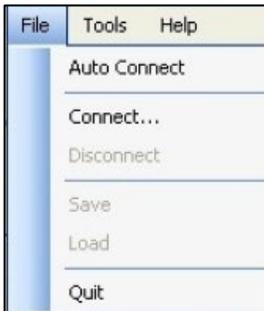

Figure 3
4. Click **File > Auto Connect (Figure 3)**. The program will scan for a display and prompt Loading successfully completed when a connection is established. If Auto Connect does not provide a connection, click **Connect** and provide a serial port number, then click **Connect**.